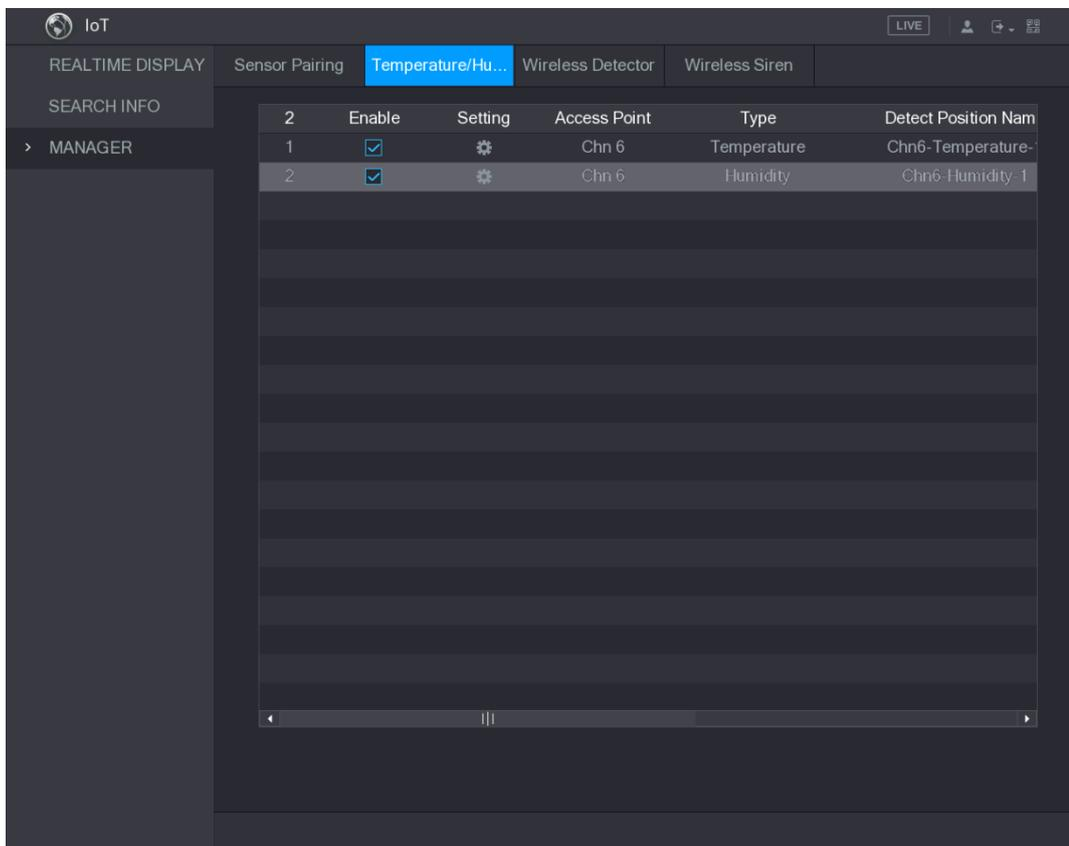

Figure 5-168
**Step 2** Select the **Enable** check boxes to enable IoT function. See Figure 5-168.